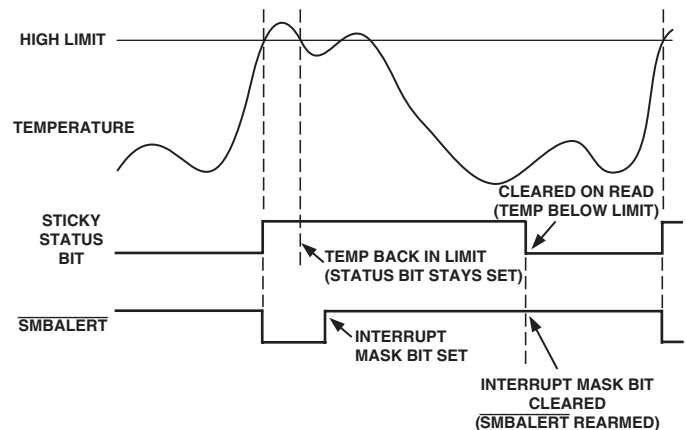

Figure 24. How Masking the Interrupt Source Affects $\overline{\text{SMBALERT}}$ Output
7. Periodically poll the status registers. If the interrupt status bit has cleared, reset the corresponding interrupt mask bit to 0. This will cause the $\overline{\text{SMBALERT}}$ output and status bits to behave as shown in Figure 24.